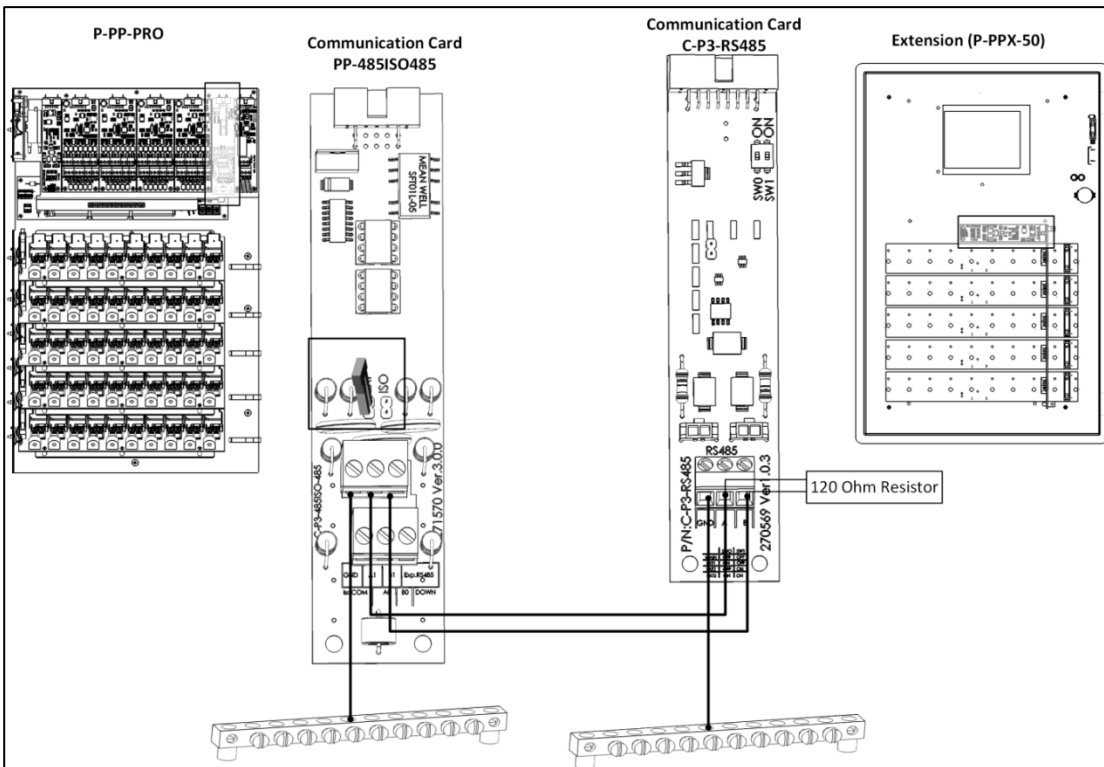

Figure 48: Expansion Box – Controller Termination
- If an RSU unit is installed at the end of a chain, install a 120 Ohm termination resistor (supplied by Munters) (Figure 48).